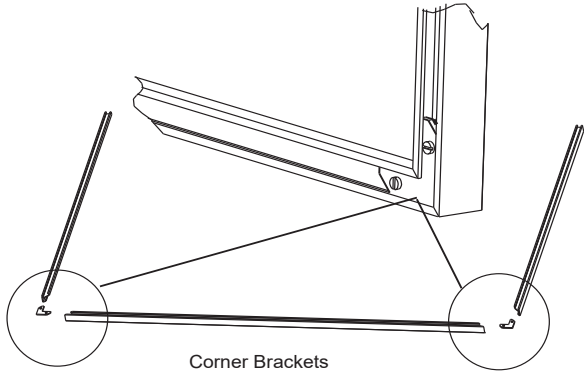

Figure 20.2
2. Assemble trim as shown in Figure 20.2.